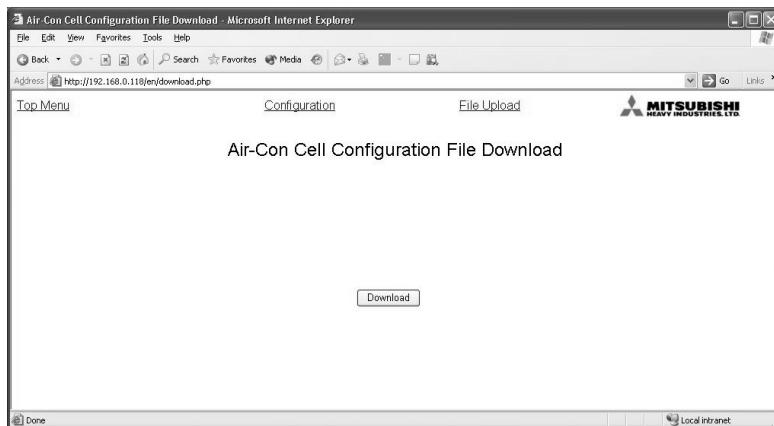

Fig.10 Air-con Cell Configuration File Download
- (1) To get the download screen, select the link "Air-con Cell Configuration File Download" on the main menu. Fig. 10 shows Air-con Cell Configuration File Download screen.
- (2) Click the "Download" button to download and follow the Windows guidance.